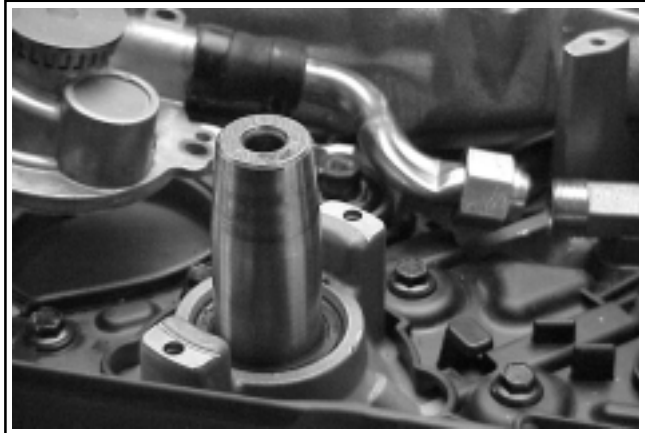

Figure 9-46. Lifting Out Water Pump and Transfer Tube.
4. Lift the pump up and carefully work the ferruled end of the transfer tube out of the fitting. Remove the water pump with the tube and the hose section attached. Remove the O-Ring from within the channel. See Figure 9-46.